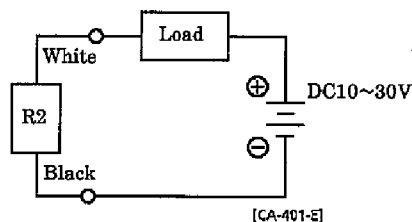

Fig.2 R1 An example of basic circuit
- Install some protective circuit as per illustrated in Fig. 2 below when capacitor type load (condenser) is to be used because this type is apt to generate surge current at turning switch ON.